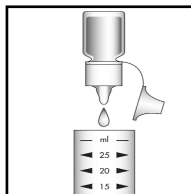

Figure 1
1. Add 5 drops of A-7400 Activator Solution to the empty sample cup (fig 1).